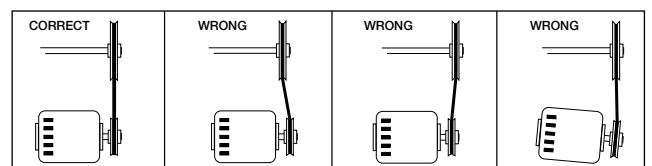

Figure 16
6. If adjustments are made, it is very important to check the pulleys for proper alignment. Misaligned pulleys lead to excessive belt wear, vibration, noise and power loss, see Figure 16.